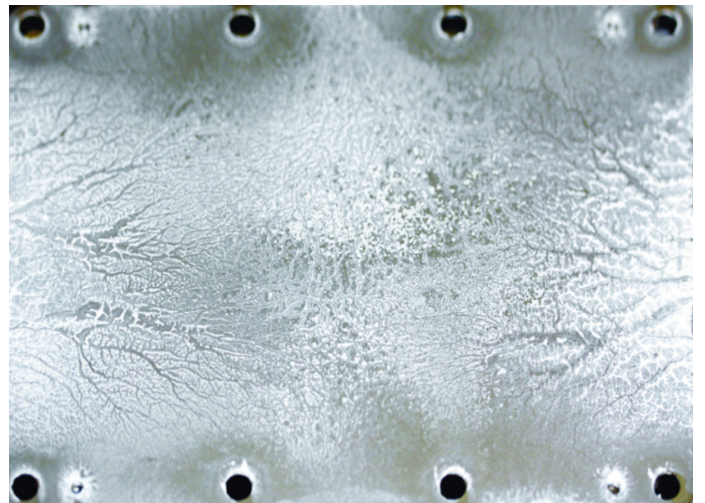

Fig. 9: Example of good paste coverage
The thickness for the stencil plate depends on the used type of thermal paste. Usually 180 μm are sufficient but it is strongly recommended to verify this with optical judgement of the paste layer (fig. 9/10) or with R_{th} measurements.
4. It is crucial to make a visual judgement of the paste layer quality after mounting the module onto the heatsink for a couple of samples. Sufficient grease layer thickness can be assumed if the complete module surface is covered with paste and a small stripe of surplus grease is visible along the base-plate edges. Figure 9 shows a good example with the complete surface covered with paste: